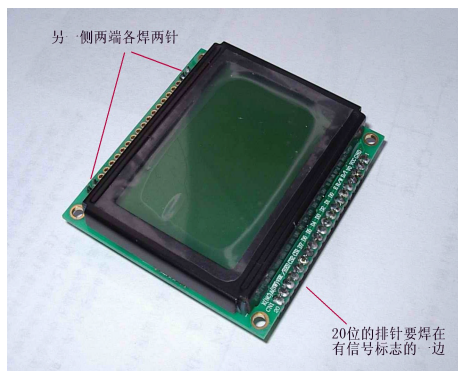

Fig. 2
8. When installing the LCD panel the 20-pin (qty. 1) and 2-pin (qty. 2) SIP headers should be soldered to the LCD module first (Fig. 2 & 3). The shorter ends of the pins should be soldered to the LCD module and the pins need to be perpendicular to the PCB board. The 20-pin header should be placed on the end with the signal labels. Since there are the same number of holes on each side of the module it is easy to place the headers on the wrong side. **AVOID THIS!!!** The two 2-pin headers are for holding the LCD module to the PCB only, and are not part of the circuit. You need to cut one pin away from the 2-pin header on the right hand side (viewed from the front) since it interferes with the heat sink.